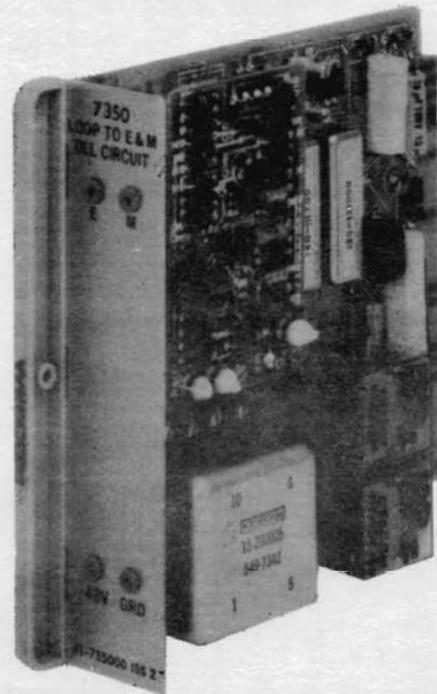

Figure 1. 7350 Loop to E&M DLL Circuit Module
1.01 This Practice provides circuit description, installation procedures, and basic testing information for the Wescom® 7350 Loop to E&M Dial Long Line (DLL) Circuit (shown in Figure 1). This Practice has been reprinted to incorporate an editorial update and to make corrections in the earlier printing. Significant editorial changes are indicated by a change bar (▬) in the margin adjacent to the affected copy.